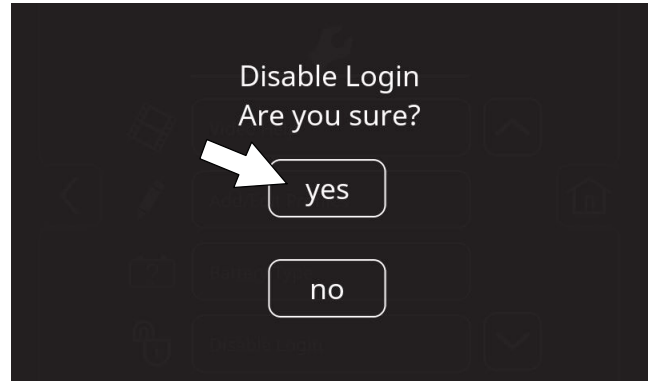

FIG. 194
5. Press the yes button to disable the login at machine start up (Figure 194).